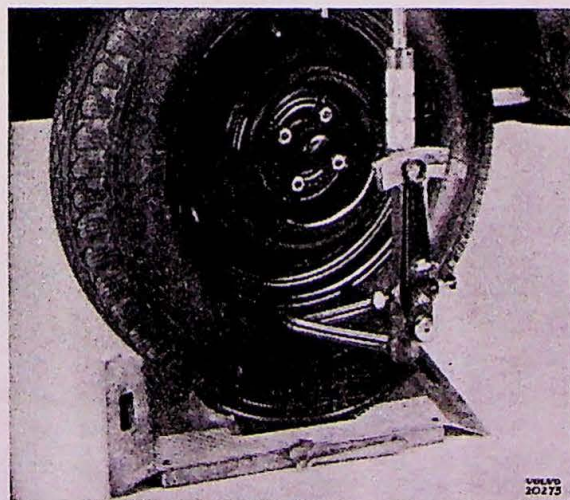

Fig. 36.
1. Turn out wheel 20 degrees by means of steering wheel (fig. 36).